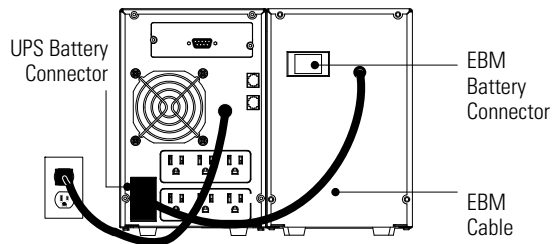

Figure 27. EBM Connections (120V Model Shown)
3. Plug the new EBM into the UPS as shown in Figure 27.